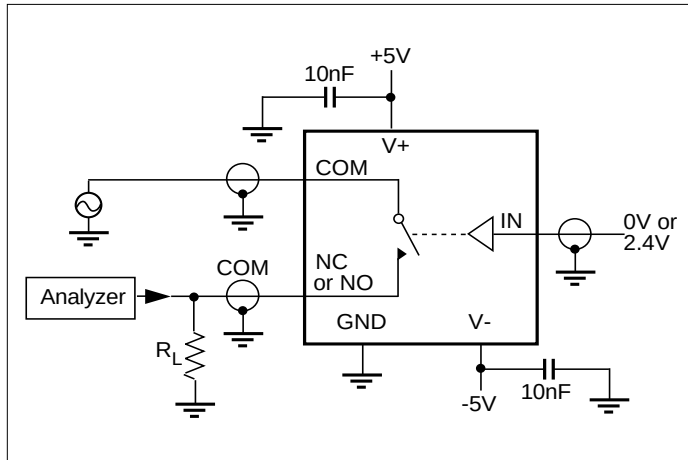

Figure 5. Off Isolation
- Off Isolation = $20 \log_{10} [V_{COM} / (V_{NO} \text{ or } V_{NO})]$. See figure 5.
7. Off Isolation = $20 \log_{10} [V_{COM} / (V_{NO} \text{ or } V_{NC})]$. See figure 5.